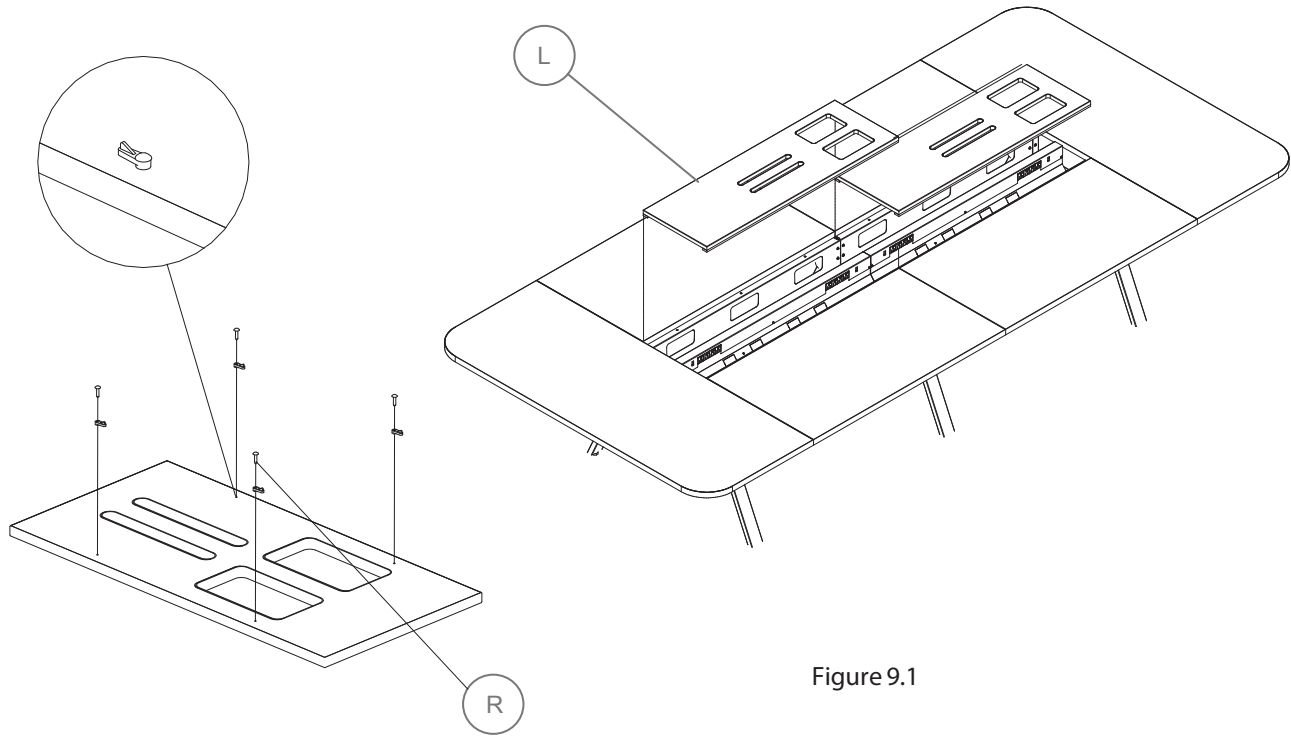

Figure 9.1
4. When applicable, enclose Single Circuit Corded Power Feed Cable with Vertical Wire Manager (figure 9.1)